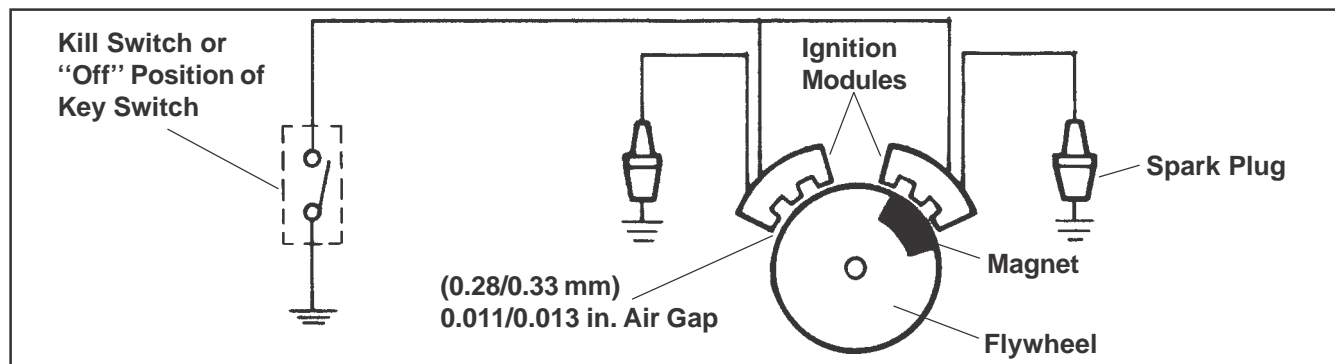

Figure 7-3. Capacitive Discharge (Fixed Timing) Ignition System.
This system (Figure 7-3) consists of the following components:
- Two electronic capacitive-discharge ignition modules (Figure 7-3) which mount on the engine crankcase .